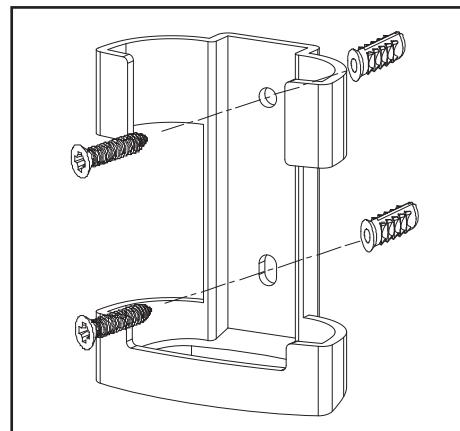

Figure 22
1. Position the wall cradle in the desired position and attach it to the wall using the included wall cradle screws. (Figure 22)